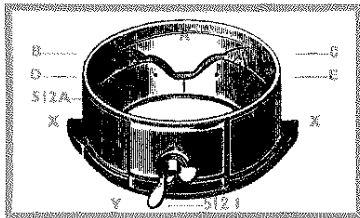

Fig. 5
The cam shell (Fig. 5) contains the steel cams, A, B, C, which raise and lower the cylinder or plain needles; it rests upon the base and is kept in position by the cylinder round which it revolves. The stitch cam A is adjustable by means of the wing nut (512F) on the outside of the cam shell. Between this wing nut and the shell is a pointer (512E) which indicates upon the index plate (512L) the position of the stitch cam (A). The lowest point (6) makes the longest stitch